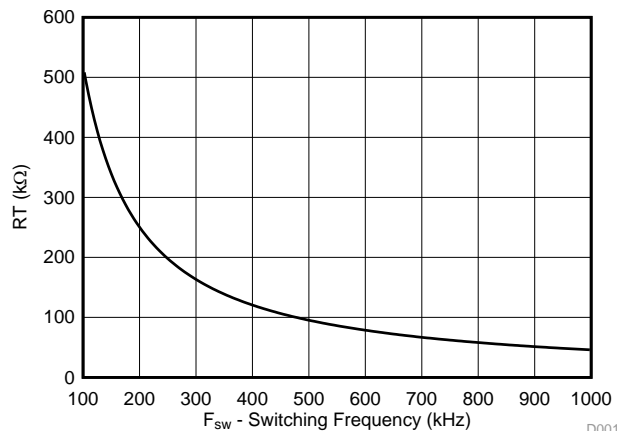

Figure 10. RT vs Switching Frequency
In external synchronization mode, the switching frequency could be anywhere between 100 kHz and 1 MHz as long as the clocks feeding the 2 dice are 180° out of phase. In this mode of operation, a resistor is connected between the RT pin and GND. The SYNC pin requires a toggling signal for this mode to be effective. The switching frequency of the device goes 1:1 with that of SYNC pin. External system clock-user supplied sync clock signal determines the switching frequency. If no external clock signal is detected for 20 μs, then TPS50601A-SP transitions to its internal clock, which is typically 500 kHz. RT values of the master and slave converter must be within ±5% of the external synchronization frequency. This is necessary for proper slope compensation. A resistance in the RT pin is required for proper operation of the slope compensation circuit. To determine the RT resistance for a given switching frequency, use Equation 4 or the curve in Figure 10.
2. The RT pin on slave device should be connected to a resistor such that the frequency of the slave device is within 5% of the master's frequency, 500 kHz in this case. See Figure 10 for reference.
1. RT pins of both master and slave device must be connected to a resistor matching the frequency of the external clock being used. See Figure 10 for reference.